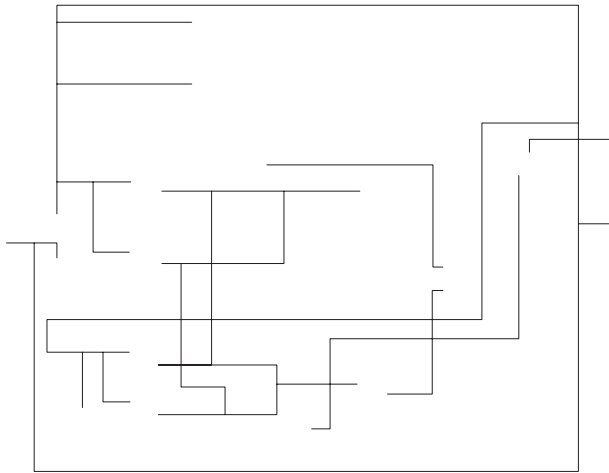

Figure 20-16
2. Lay out the connecting lines using light construction lines as in **Figure 20-16**.
2. With Ortho on to force vertical and horizontal lines, use polylines to create the connecting lines for the drawing as in Figure 20-16. Draw the outside lines first and allow them to fill most of the drawing area.